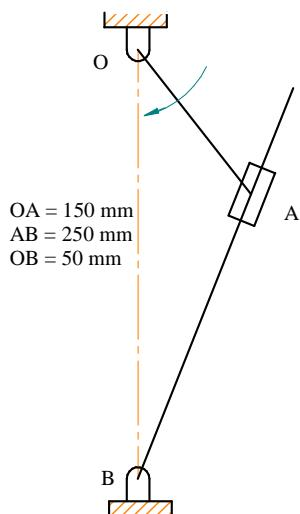

Fig.7b
b) A quick return mechanism is as shown in Fig. 7b. Link 2 rotates uniformly at 20 rad/sec. Draw the acceleration diagram and determine the Coriolis acceleration.